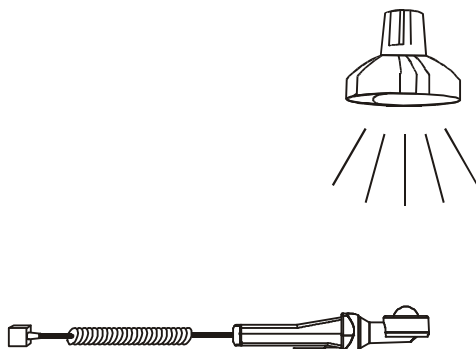

Figure 5.64: LUXmeter probe positioning
- Take the position of LUXmeter (see Figure 5.64). Make sure that LUXmeter is turned on.